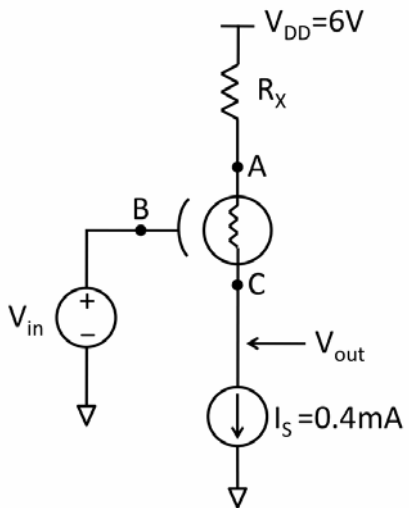

Figure 4 New Inverter Designed to Improve  $V_M$ .
- (3) You may have noted from the VTC plot that the inverter's threshold voltage  $V_M$  is away from  $V_{DD}/2$ . This is often undesirable for digital operations. To improve that, the EE141 student designed another inverter that incorporates a current source. Schematic of the new inverter is shown in Fig. 4. Amplitude of the current source  $I_S$  is  $0.4\text{mA}$ . Design the value of the resistor  $R_X$  so that  $V_M = V_{DD}/2$ . (3 pts)